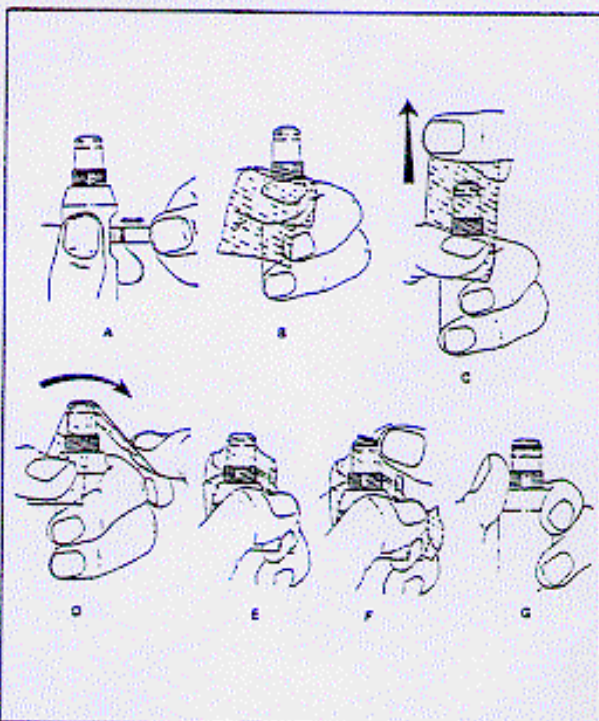

Figure 4. Membrane Application on the 5739 and 5750 Probes
To change the electrolyte and membrane the following steps should be followed. The Sea-Bird assembly drawing for the YSI sensor (drawing number 40356) and Figure 4 in the YSI instructions are referenced in these instructions.
a. Grasp the probe in your left hand. (See the sketches in Figure 4.) When preparing the 5739 probe, the pressure compensating port should be to the right. Successively fill the sensor body with electrolyte while pumping the diaphragm with the eraser end of a pencil or a similar soft, blunt tool. Continue filling and pumping until no more air bubbles appear. When preparing the 5750 probe, simply fill the sensor body until no more air bubbles appear.